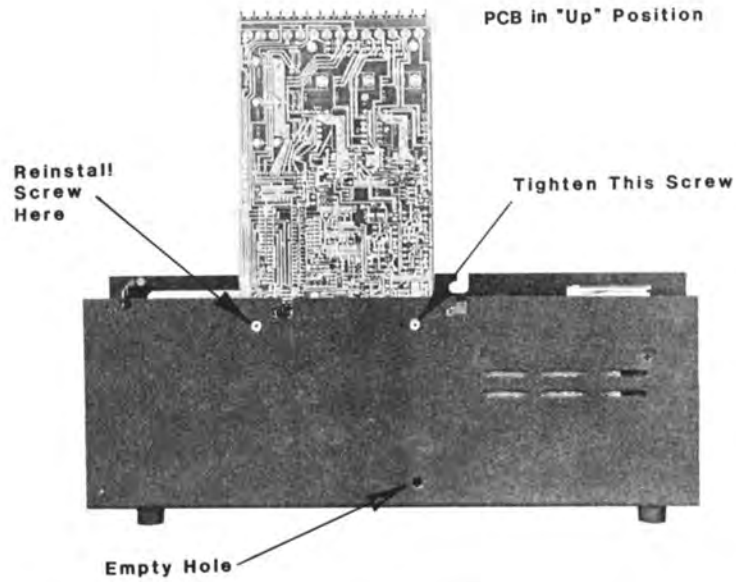

Fig. 5-3
C. The Reproduce and Record PCB's are electrically and mechanically connected. After Step B, they may be swung up and over the chassis as illustrated in Figure 5-3. Take the standoff screw removed in Step B and reposition it in the empty countersunk hole near the chassis top. To hold the PCB's in the "up" position, tighten both standoff screws.
D. The Reproduce and Record PCB's are mechanically fastened by four (4) nylon "push-pull" standoffs. The boards can be gently pried apart for additional access. The Reproduce PCB will remain mounted to the chassis side and the Record PCB may be stood on end across the chassis.